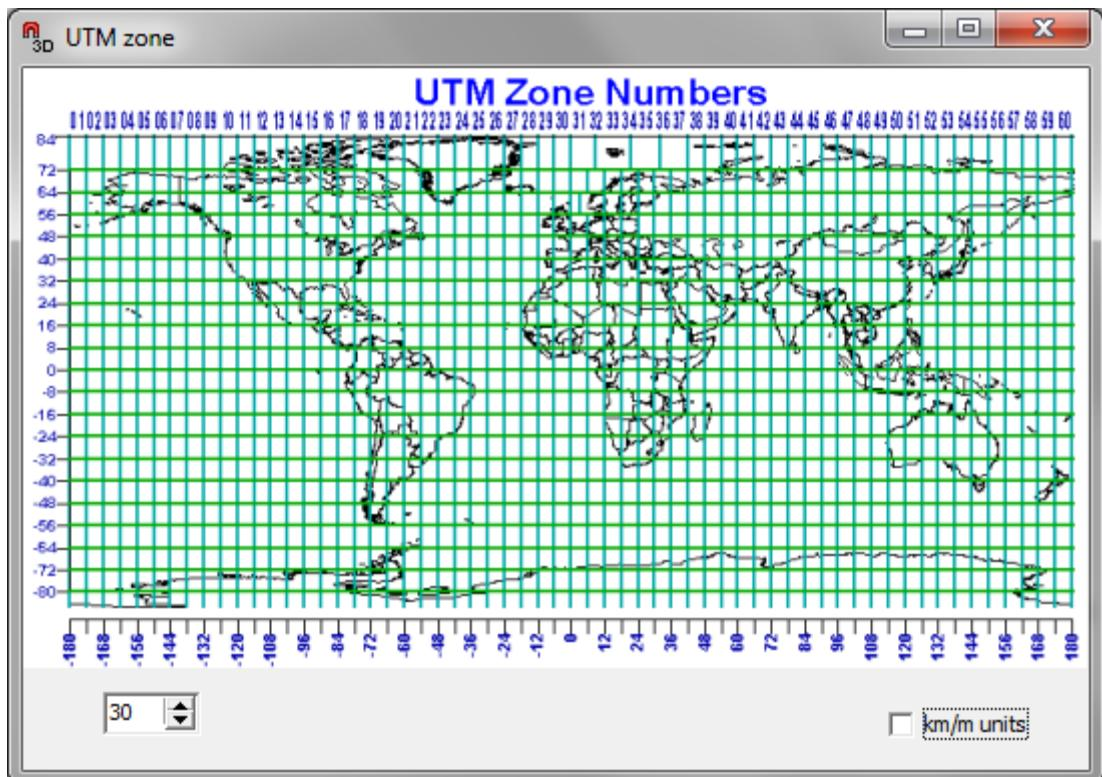

Fig. 36 Choosing UTM zone dialog.
**Load googlemap** option allows to upload Google map in accordance with set points coordinates. After choosing this option the UTM zone window where you have to select zone number will appear (fig. 36).